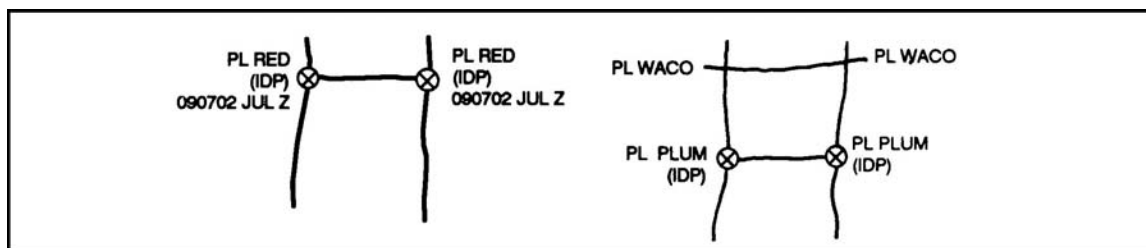

Figure 22. Initial delay position.
- (4) Initial delay position (IDP). An IDP is where a delaying action begins, trading space for time. The delay sector is defined by boundaries. The initial and all subsequent delay positions can be related to a time-phased forward edge of the battle area (FEBA). The initial and subsequent delay positions are specified, and PLs may be used to report the progress of the battle. The enemy is held forward of delay lines until the specified time or until permission is granted to withdraw. The initial and successive delay positions are shown on boundaries by coordination points with a solid line between them. Although most IDPs are given a code name, they may have a number, letter, or a variety of code names. The letter abbreviation (IDP) can be to the flank of the coordination symbol (when at the flank, it is in parentheses) or on the line itself. Its time phase is indicated as a date-time group having a two-digit day and a four-digit hour, both connected. The month indicator can be a three-letter type or spelled out, depending upon the desires of the commander. The letters IDP should be placed in parentheses between the line code name, letter, or number and the date-time group (Figure 22).